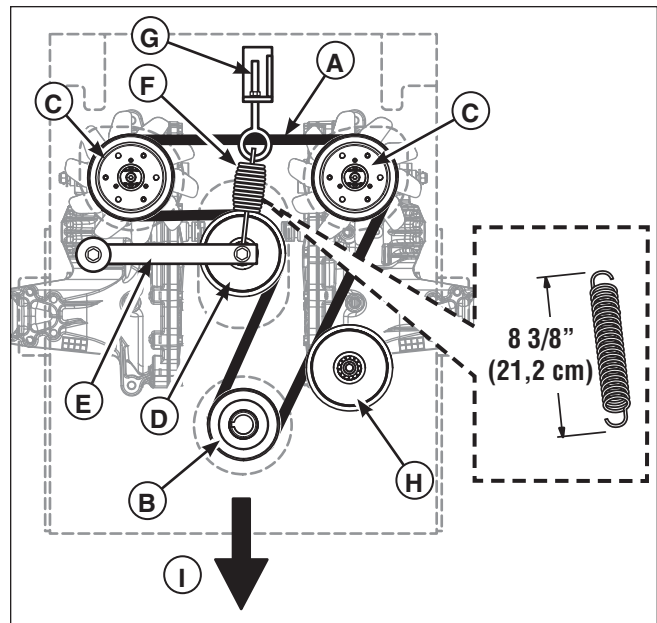

Figure 37. Hydraulic Pump Drive Belt Replacement
4. Loosen the nut on the spring anchor eyebolt (**G, Figure 37**) to release the majority of the belt tension. Use caution and remove the nut to completely release the tension.